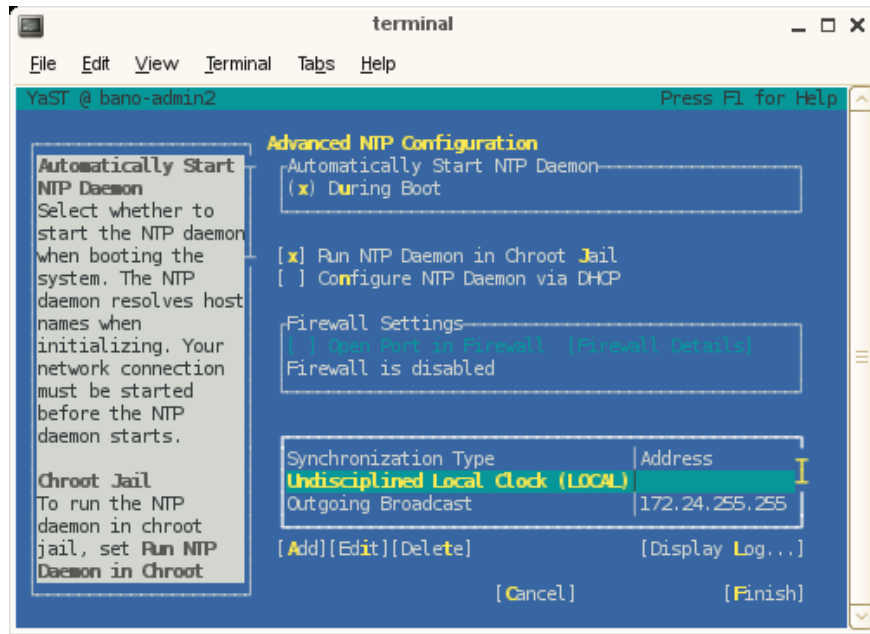

Figure 2-22 Advance NTP Configuration Screen
33. Configure NTP time service as shown in Figure 2-22 on page 55. Click **Next** to continue.